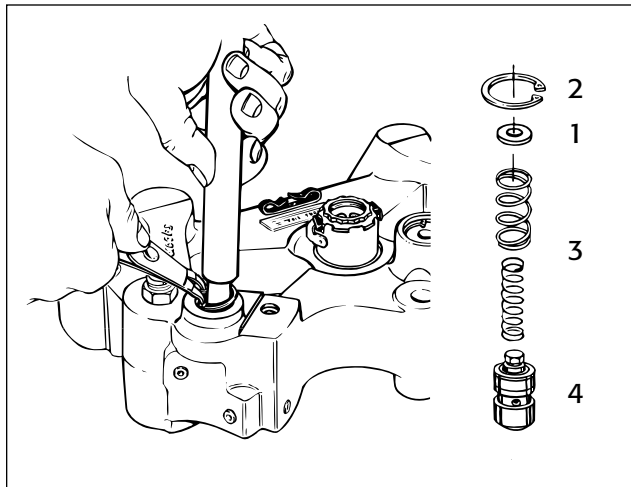

FIG. 24
1. Apply pressure on the control valve cover (1). Remove retaining ring (2) using retaining ring pliers (see Fig. 24).
2. Slowly remove cover until spring pressure ceases, then remove the two control valve springs (3).
3. Using needle-nose pliers, reach into the bore and grasp the stem of the control valve (4) (see Fig. 24). Remove the control valve.